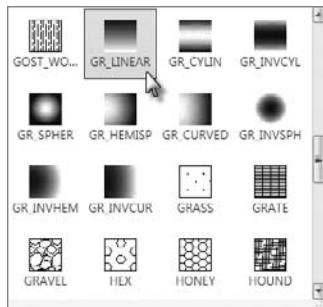

FIGURE 11.14 Selecting the linear gradient type
8. Expand the Pattern panel and choose GR_LINEAR, as shown in Figure 11.14.